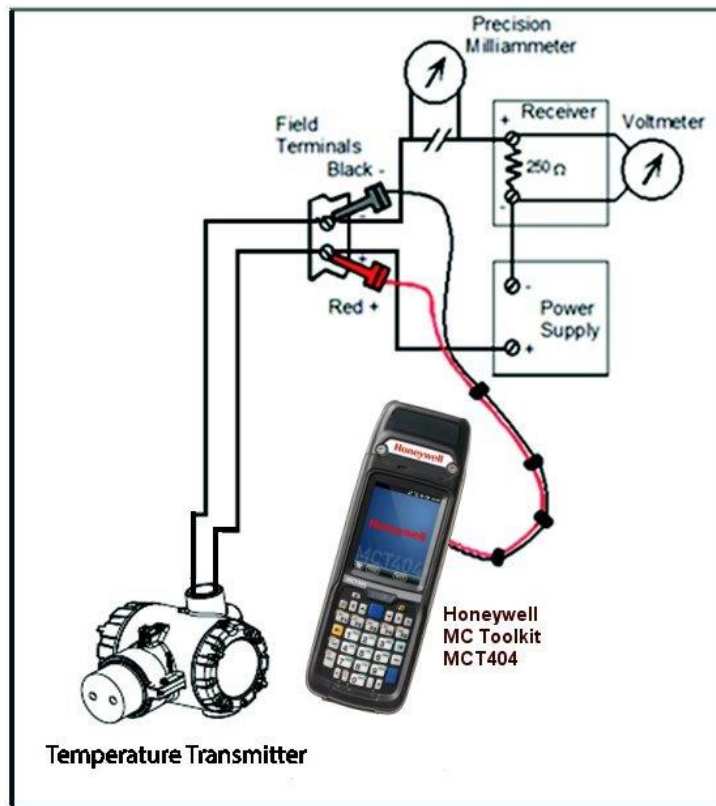

Figure 14 – Current Loop Test Connections
1. Refer to Figure 14 for test connections. Verify the integrity of electrical components in the output current loop.